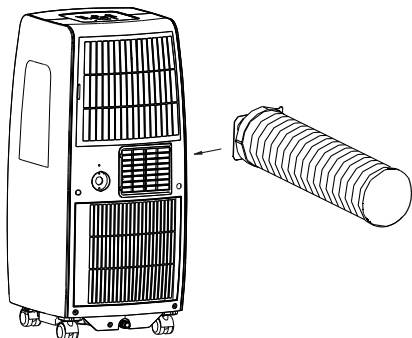

Fig. 5
2. Push the Exhaust hose into the air outlet opening along the arrow direction (See Fig. 5).